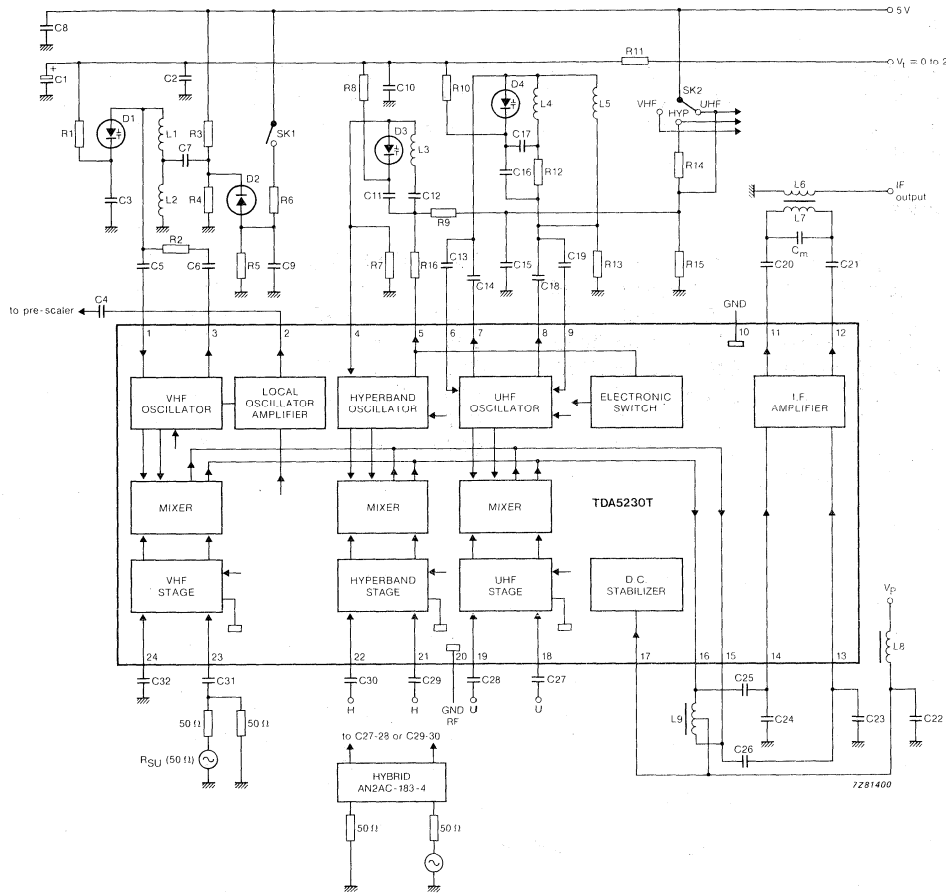

Fig. 4 Application diagram.
Notes to the characteristics (see Fig. 4)
- The gain is defined as the transducer gain (measured in Fig. 4) and the voltage ratio of L6 to L7 (6:1, 16 dB).